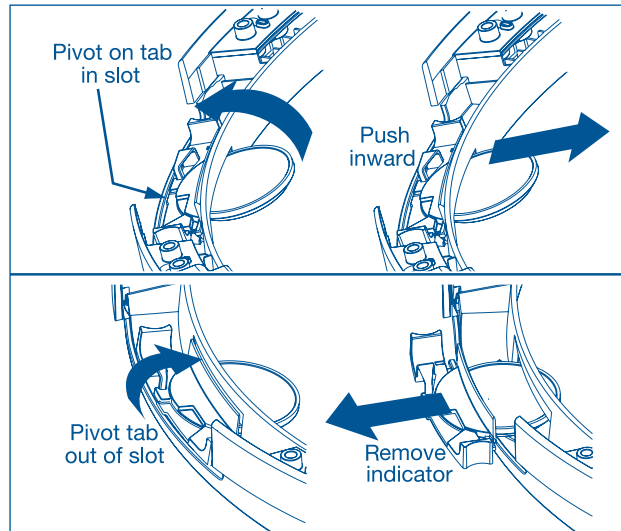

Figure 4-8.
4. Gently push the indicator toward the center of the lens to release the tab. (See Figure 4-8)
5. Rock the tab upward. (See Figure 4-8)
6. Pull the indicator out and remove from unit. (See Figure 4-8)